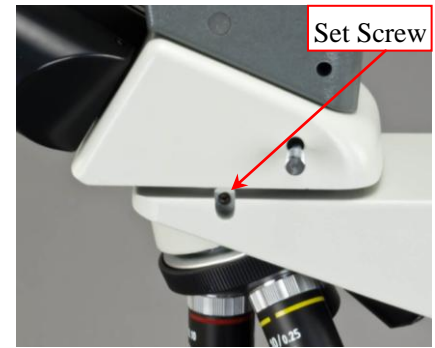

Fig.1
2.1 Installation of the digital binocular viewing head (Fig.1)